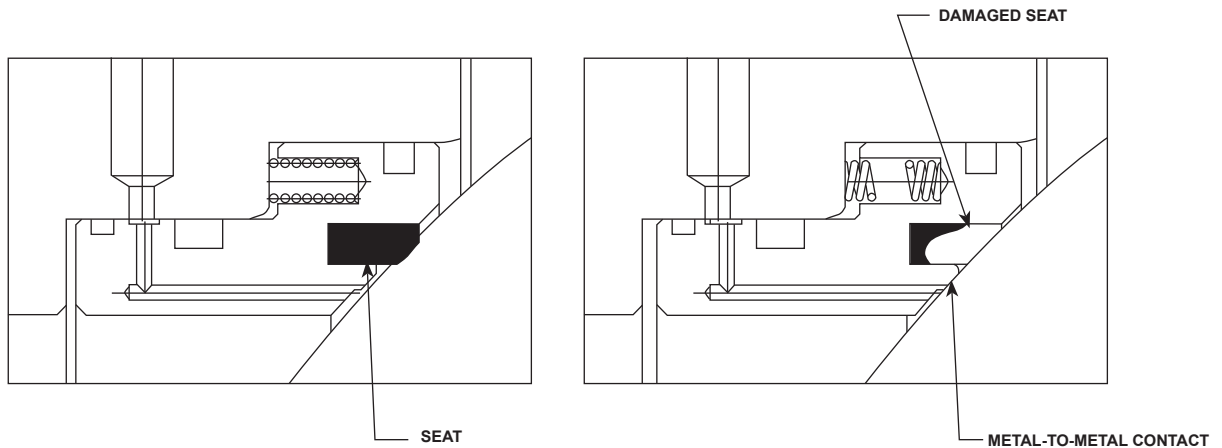

Figure 5. Fire-proof Design Schematic
- **Fire-proof Design**— Tartarini Trunnion Mounted Valves are fire tested for safety and qualified under API 6FA and API 607. Should the soft seats be destroyed by fire, the seat retainer and the ball act as a secondary metal-to-metal seal until maintenance can be performed. See Figure 5.